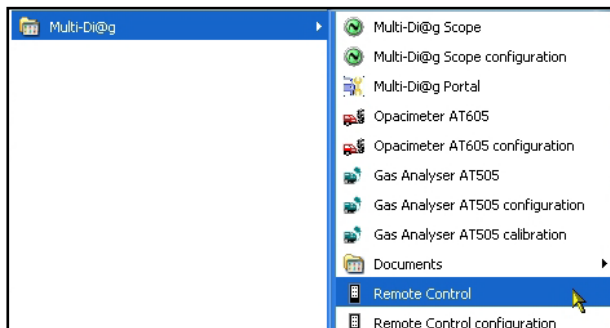

Fig. 94 – Multi-Di@g program group (Start \ Programs \ ...)
- b) It can also be started by clicking on the Remote Control option in the “Start\Programs\Multi-Diag” program group (see Fig. 94).
If it is unticked, the program will not start automatically when Windows starts. Then you will always have to run the program manually from the Start menu (see Fig. 94).